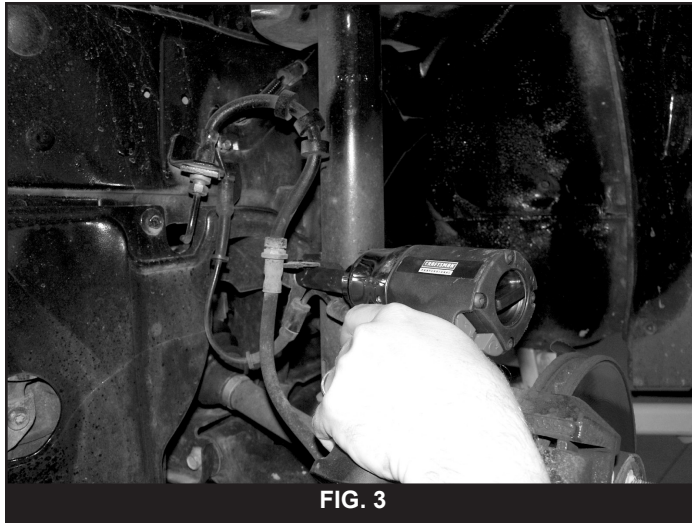

FIG. 3
6. Remove the bolt retaining the ABS sensor wire to the strut and remove the wire from the strut (Fig 3).